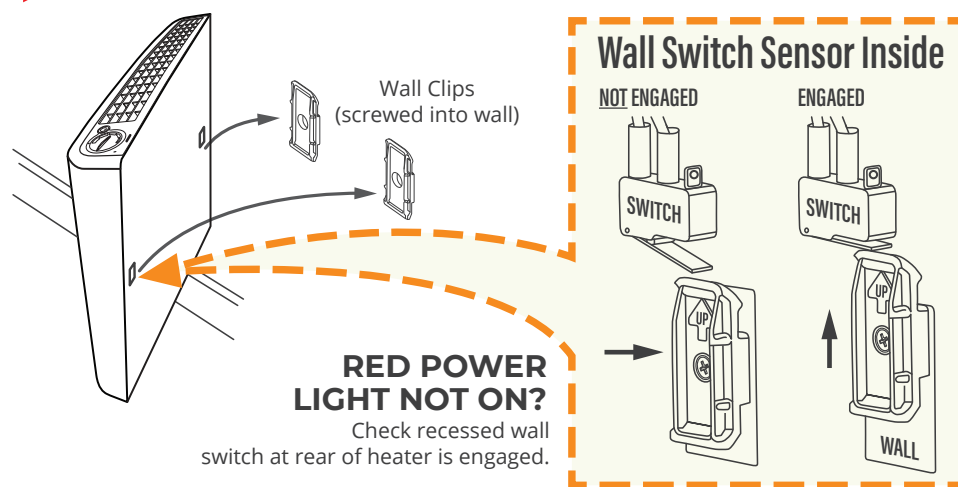
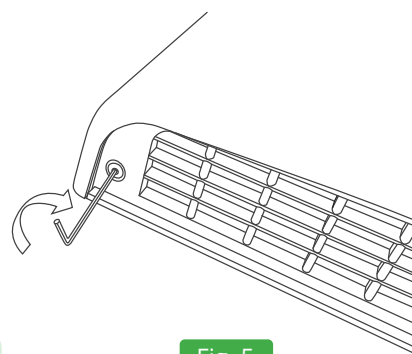

Fig. 4
Fig. 5
- 4 Note: make sure you pre-install the locking bar screw before you mount the heater. (See Fig. 5 below). Install heater on mounting clips (align right side first) and make sure to press down firmly on the heater to ensure a secure fit. You will hear it “snap” into place. (Figure 4 on the left)
- 1 **Installing the Locking Bar Screw (Fig. 5)** BEFORE YOU MOUNT THE HEATER TO THE WALL. Take the locking bar screw out of the mounting kit and while the heater is laying flat, use the Hex/Allen key provided to pre-install the screw in the hole at the left hand side of the bottom vent (Fig 5). Twist the locking screw in about 3/8 of an inch but make sure you do not screw it in too far as it will obstruct the mounting holes at the back of the heater and prevent secure mounting.
- 3 **Tighten Locking Screw (Fig 5)** Follow the rest of the mounting instructions to ensure the heater is properly seated on the mounting clips and then tighten the locking screw to fix the heater to the wall. **DO NOT USE A POWER TOOL! DO NOT OVERTIGHTEN**, just turn the screw until the locking bar presses gently up against the left hand mounting clip inside the heater.